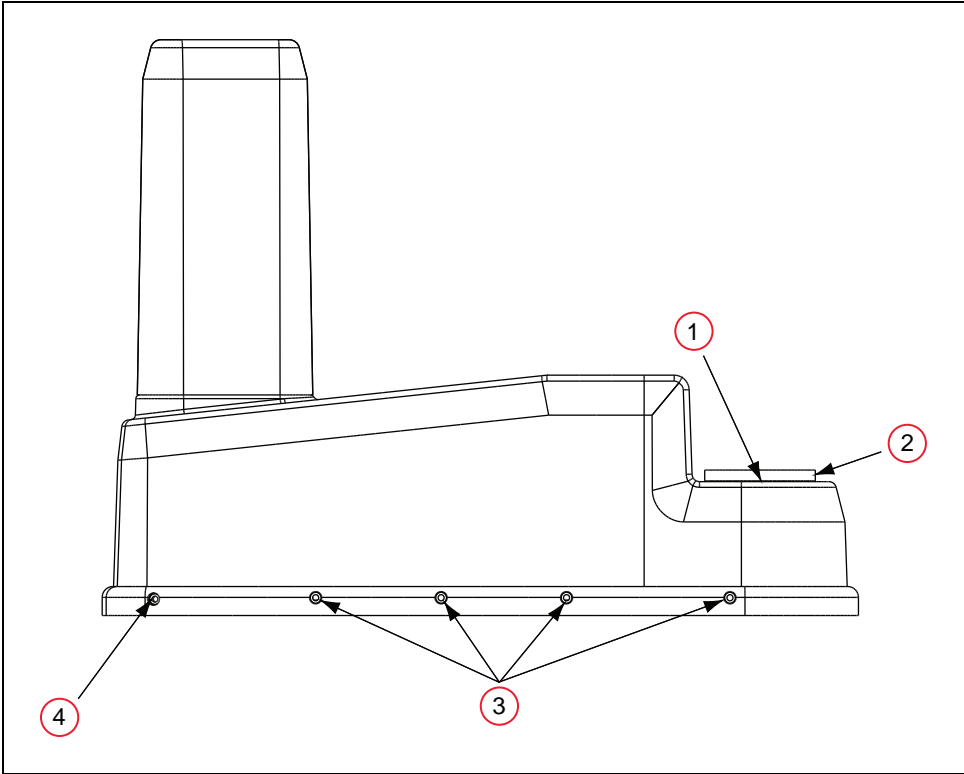

Figure 9-8. Cover Removal Instructions
4. Unscrew the collar nut on the top of the outer link. See Figure 9-8.
7. For the 8 screws along the side of the cover (4 on each side; see Figure 9-8. ), loosen only 1 to 2 turns, just enough to loosen the inside clamp nuts. You do not want to completely remove the screws. See the label on the side of the outer link cover.